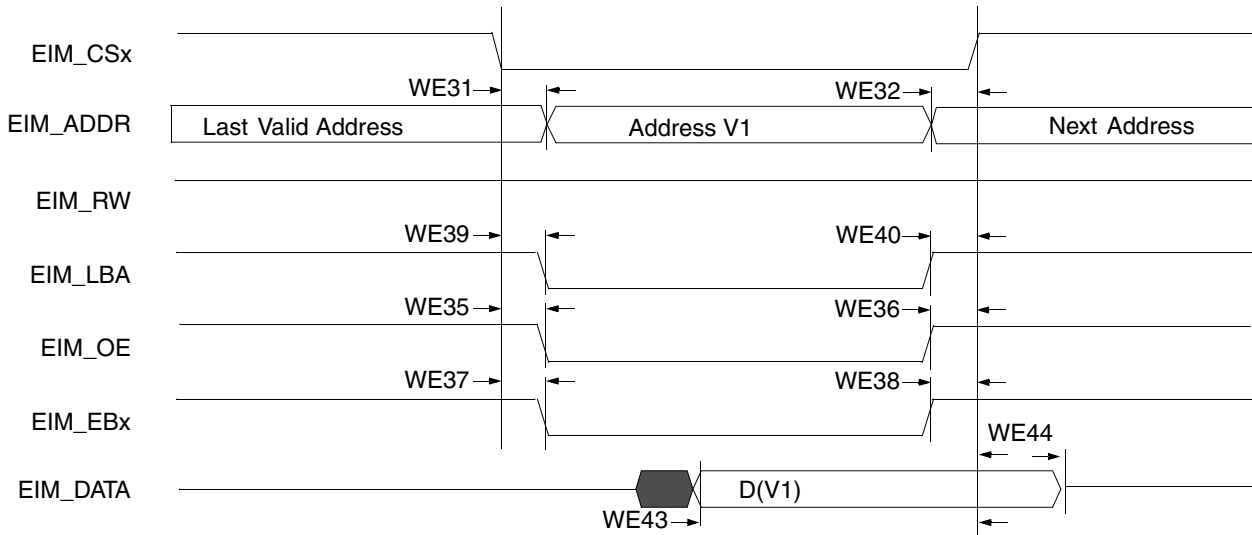

Figure 25. Asynchronous Memory Read Access
Figure 25, Figure 26, Figure 27, and Table 44 help to determine timing parameters relative to the chip select (CS) state for asynchronous and DTACK EIM accesses with corresponding EIM bit fields and the timing parameters mentioned above.